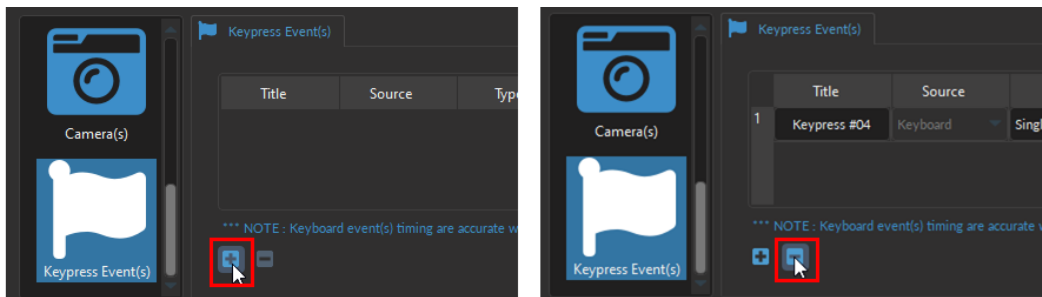

Figure 9.28: Adding and Removing Keypress Events
To add a new **Keypress Event**, select the + sign at the bottom of the window (Fig. 9.28, left). To remove a Keypress, use - button (Fig. 9.28, right).
- **NOTE:** Selecting the + button (without clicking the *Add* button or the *Close* button of the *Channel Configuration* window) will **automatically** add the Keypress Event channel at the **bottom** of the Acquisition View window, below any pre-existing channels (Fig. 9.28).